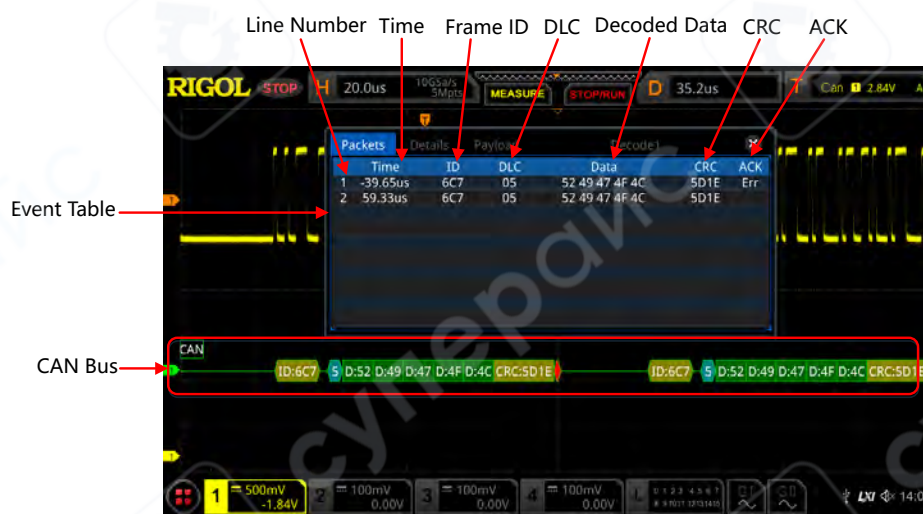

Figure 15.11 CAN Decoding Event Table
- Open or close the event table: Press **Event Table** continuously to enable or disable the display of the event table. When enabled, the following event table as shown in *Figure 15.11* is displayed. You can also enable the touch screen to tap the icon  at the right-upper corner of the event table to close it.